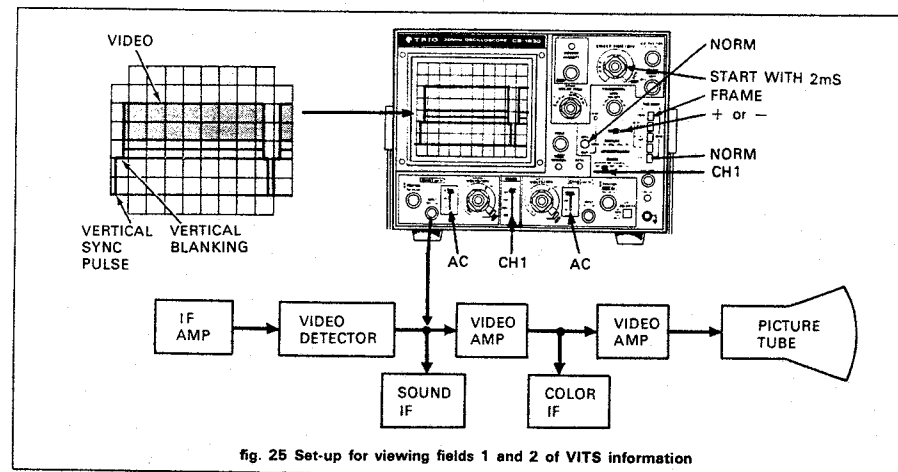

Fig. 25 Set-up for viewing fields 1 and 2 of VITS information
With dual-trace operation, the signal information on each blanking pulse can be viewed separately without overlapping. Fig. 25 indicates the oscilloscope control setting for viewing the alternate VITS.
With dual-trace oscilloscope operation, the signal information on each vertical blanking interval can be viewed separately without trace overlapping, although the information alternates with each field. Fig. 25 indicates the oscilloscope control setting for viewing the alternate vertical blanking intervals.
2. The control settings of Fig. 25 are these required to obtain a 2-field vertical display on CH1.